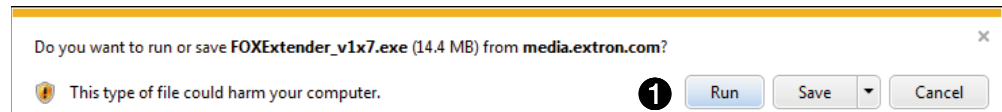

Figure 12. Download Warning and Confirmation
5. Click **Log in** to copy the software or firmware to the computer (❷).
6. If your browser asks you to confirm that you want to continue (see figure 12), click **Run** or make a similar confirmation (❶).
NOTE: Figure 12 may appear different or may not appear at all, depending on your Web browser choice and its security settings.